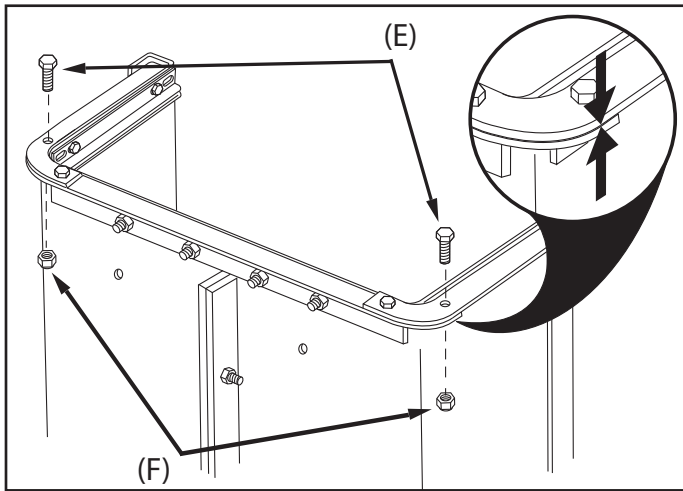

FIGURE 5
STEP 5: (SEE FIGURE 5)
- Secure the rear angles (2 & 3) using two 1/4" X 3/4" hex bolts (E) and 1/4" nylock nuts (F).